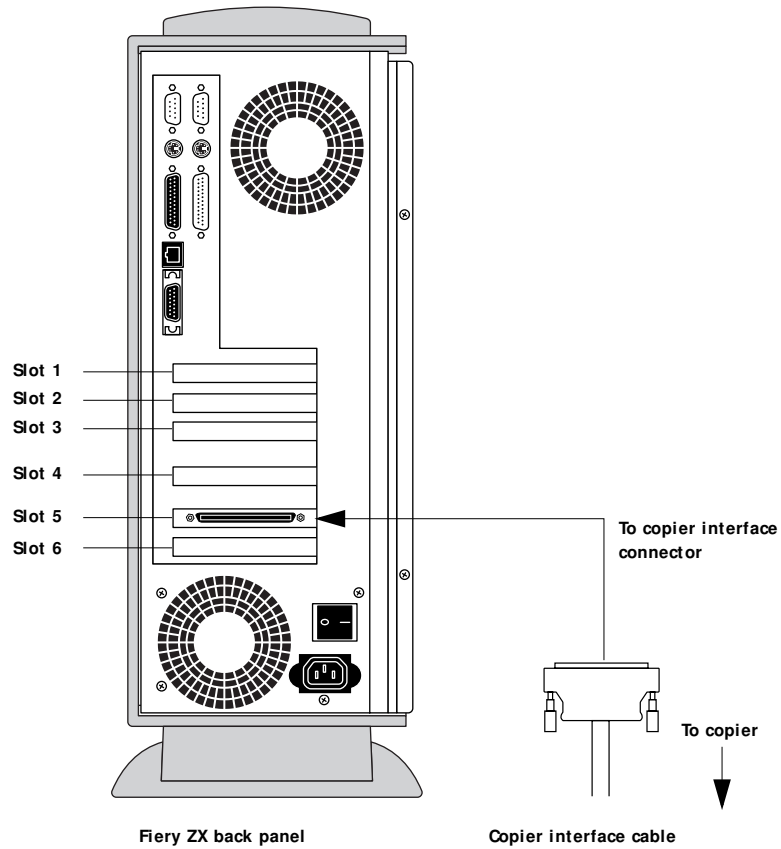

FIGURE 3-2 Copier interface cable connection
4. Connect the other end of the cable to the Fiery ZX copier interface connector in slot 5 (see Figure 3-2 on page 3-4).